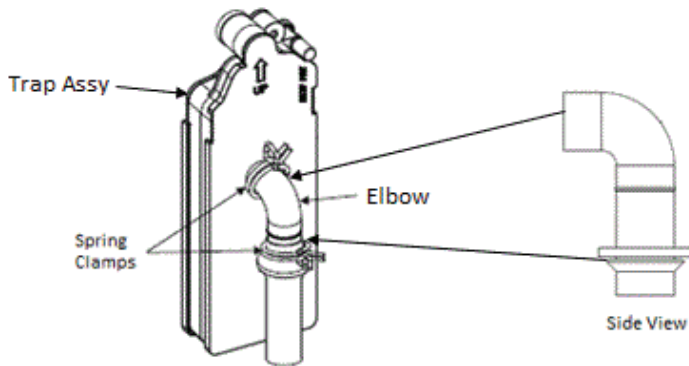

Fig. 24 – Condensate Drain Connection
3. Connect the full elbow to the outlet of the condensate trap with one spring clamp. Avoid misalignment of the drain pipe which may cause kinks in the elbow or grommet (See Fig. 24).
6. Open the spring clamp and insert the long end of the adapter or the 1/2-in. CPVC pipe into the outlet stub on the drain tube (See Fig. 24).